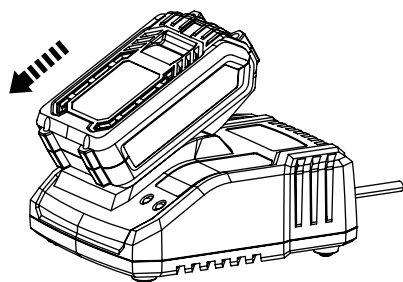

Fig. 1
1) Insert the battery pack fully in the charger (1) (Fig. 1). Connect the charger to the power supply. The indicator lights(2) on the charger show the battery status as described in below table.